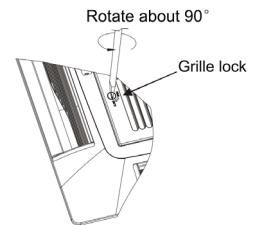
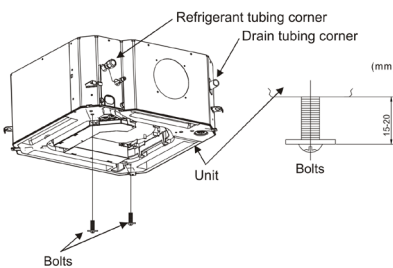

Fig 9
Fig 10
- With the grille fully opened, remove the grille along the direction shown in Fig 9.
(2) Temporary installation of the panel
- Install two bolts (Accessory) onto the main unit (the corner of refrigerant tubing side and the opposite corner). The detail is shown in Fig 10. Pay attention that leave 15-20mm bolt unscrewed so as to hang the panel easily.